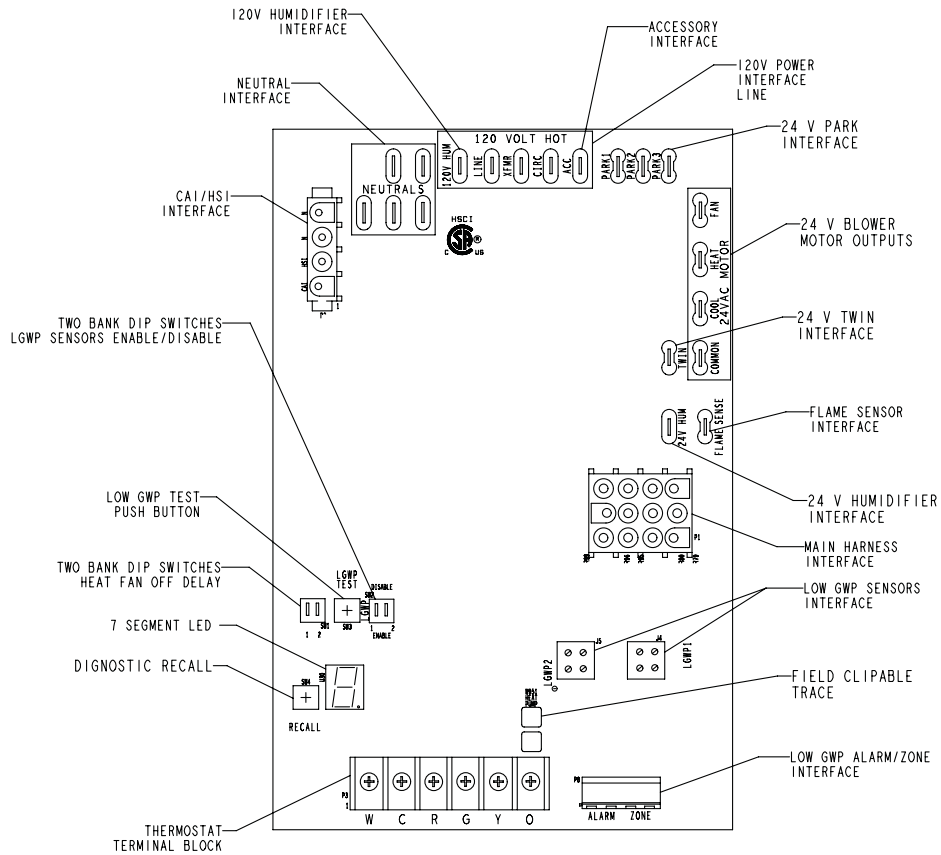

Figure 6.
4. Ignition Control 107792-XX (Figure 6)
One line voltage "ACC" 1/4" spade terminal is provided on the furnace integrated control. See Figure 6 for integrated control configuration. This terminal is energized when the indoor blower is operating. Any accessory rated up to one amp can be connected to this terminal with the neutral leg of the circuit being connected to one of the provided neutral terminals. If an accessory rated at greater than one amp is connected to this terminal, it is necessary to use an external relay.
One line voltage "HUM" 1/4" spade terminal is provided on the furnace integrated control. See Figure 6 for integrated control configuration. This terminal is energized in the heating mode when the combustion air inducer is operating. Any humidifier rated up to one amp can be connected to this terminal with the neutral leg of the circuit being connected to one of the provided neutral terminals. If a humidifier rated at greater than one amp is connected to this terminal, it is necessary to use an external relay.
The hot surface ignition control system consisting of an integrated control (**Figure 6** with control terminal designations in **Table 1**, **Table 2**, **Table 3**), sensor and ignitor (**Figure 7**). The integrated control and ignitor work in combination to ensure furnace ignition and ignitor durability. The integrated control, controls all major furnace operations. The integrated control also features a **RED LED** for troubleshooting and two accessory terminals rated at (1) one amp. See **Table 4**. for troubleshooting diagnostic codes. The nitride ignitor is made from a non-porous, high strength proprietary ceramic material that provides long life and trouble free maintenance.